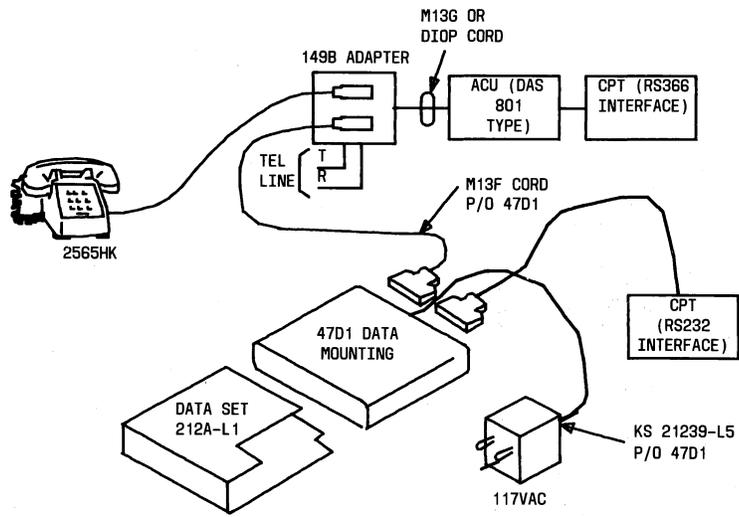
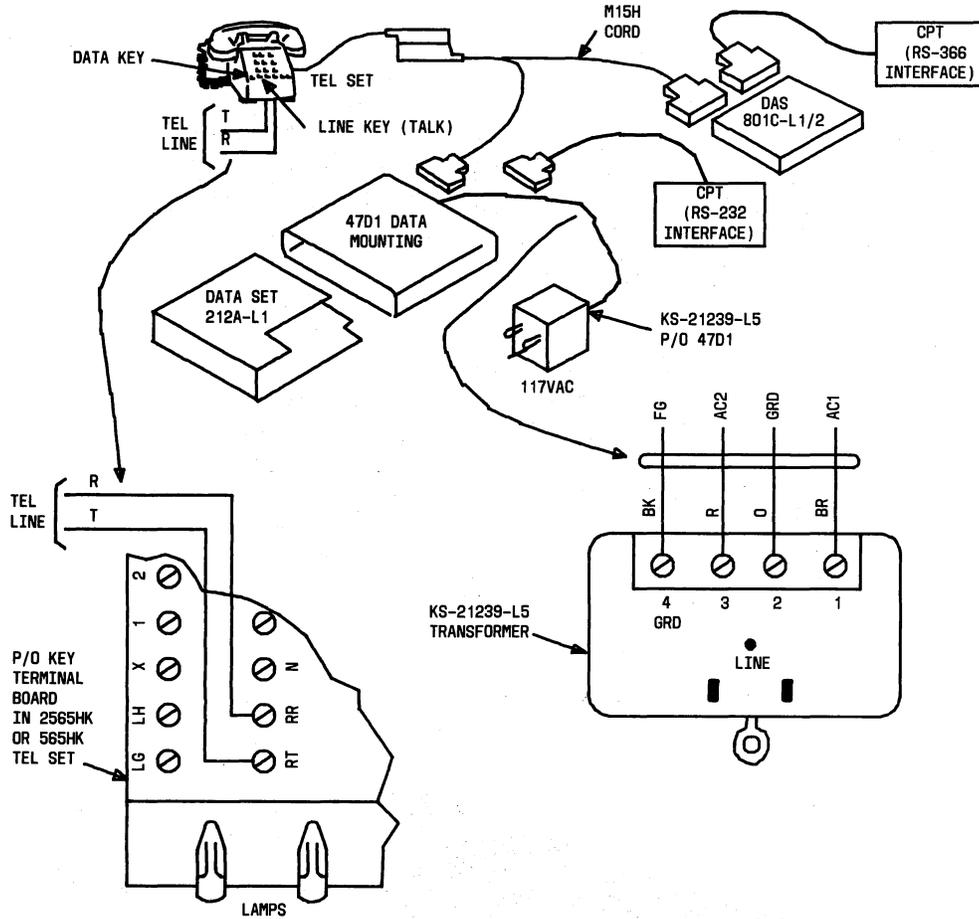

Fig. 6—Installation of DS 212A-L1/2 With an ACU
Fig. 8—Alternate Method of Installing DS 212A-L1/2 With 801C-L1/2 ACU
4.05 DS 212A-L1A/2A With ACU: When a single DS 212A-L1A/2A is installed with an ACU, connect cables and connect tip and ring as shown in Fig. 6. Figure 7 provides detailed wiring which may be useful in troubleshooting this arrangement. Figure 8 shows an alternate connection which requires an M15H cord (order separately).